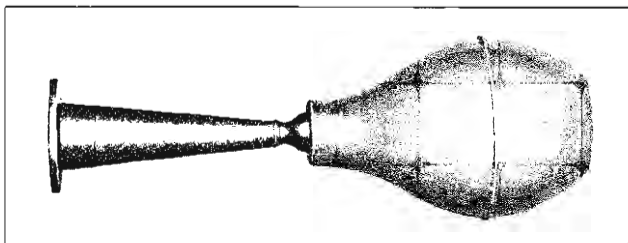

Fig. 20—Vacuum Cup
2. Assemble the remaining valves, valve springs, shields, spring caps, oil seals and valve keys in the cylinder head using Tool J-8062. Check seals by placing a vacuum cup, shown in Figure 20, over valve stem and cap, squeeze vacuum cup to make sure no oil leaks past oil seal.